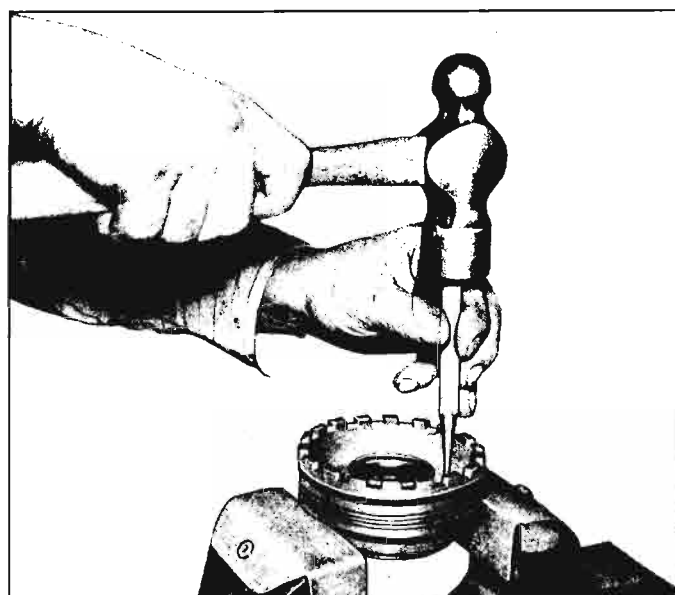

Fig. 6C-26—Removing Side Bearing Race
3. Drive out the bearing race using a small pin punch as illustrated in Figure 6C-26.